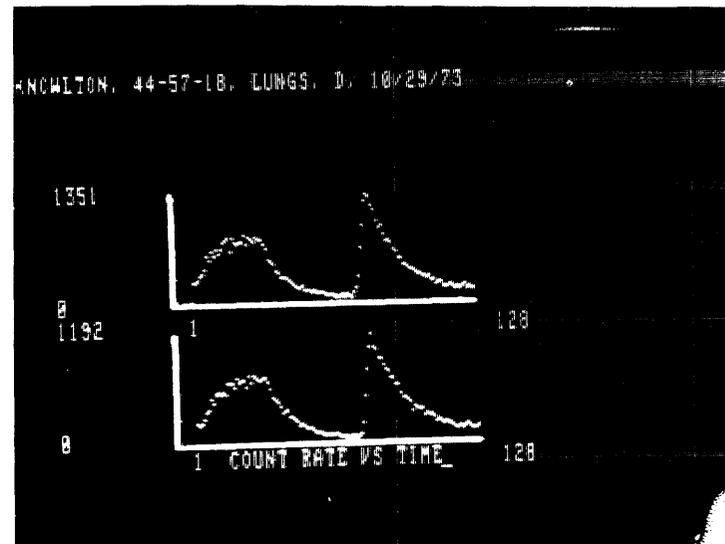

FIGURE 22. Dynamic curves of the lungs
Xenon lung studies can be analyzed by using the program XEBH. The user should define regions of interest over the lungs. It is assumed that there will be an even number of ROI's, with the first half of them over the left lung and the second half over the right. Normally three regions (top of lung, bottom of lung, whole lung) for each lung is sufficient, however XEBH can support up to 6 ROI per lung (total of 12 curves). The curves are calculated and saved in a save area. (Figure 22)
5) plot the curves and save them in a save area ( $SD_n$ ) (Figure 22)